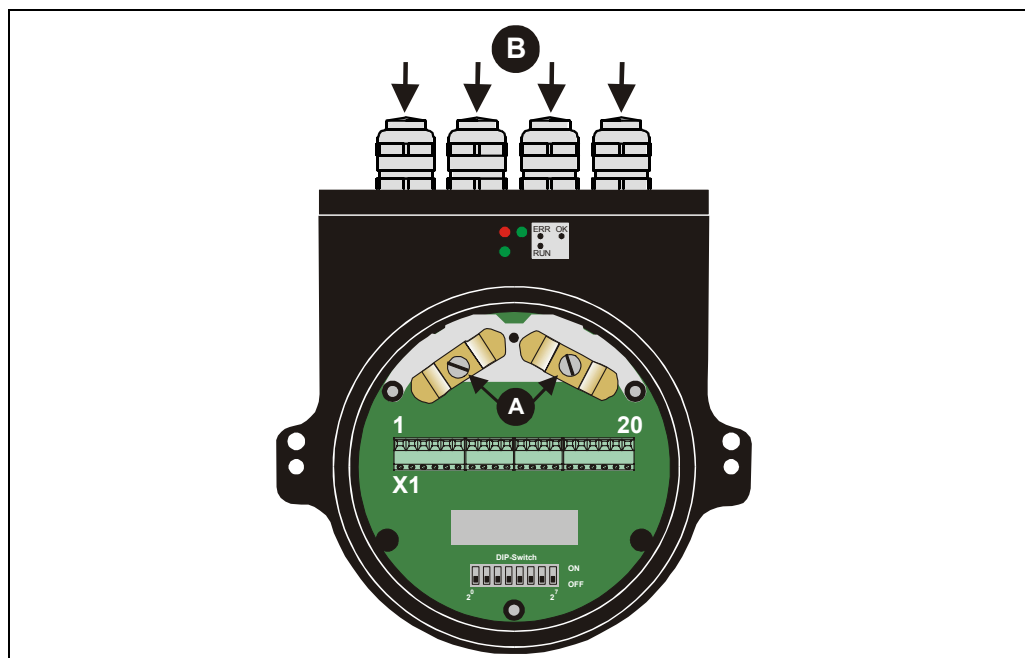

Figure 1: Connection cap with cable screw glands and shield clampings
- Ensure continuous wiring of the shield and a large contact area on special shield clampings or cable screw glands, see Figure 1 point **(A)** and **(B)**.